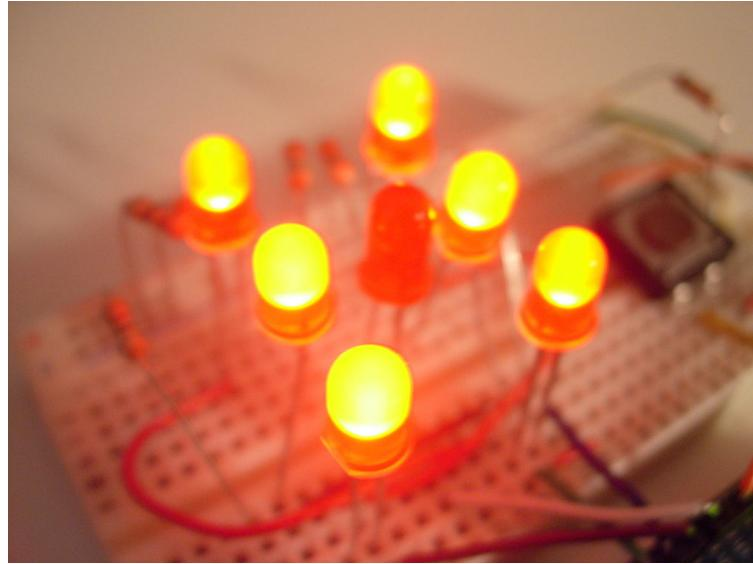

Figure 6– An LED dice
- b) Now try and create a single LED dice (see Figure 6).